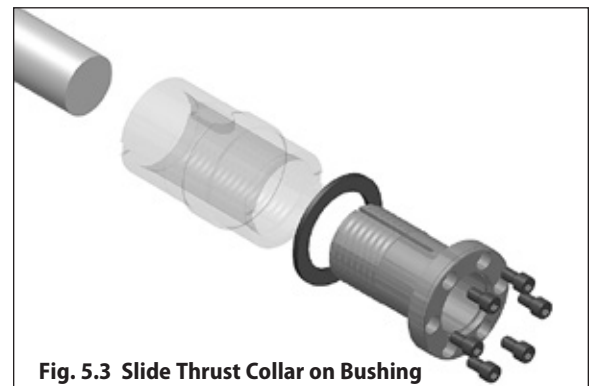

Fig. 5.3 Slide Thrust Collar on Bushing
Step 3 – Slide the thrust collar onto the Taper-Grip® bushing (see Fig. 5.3).